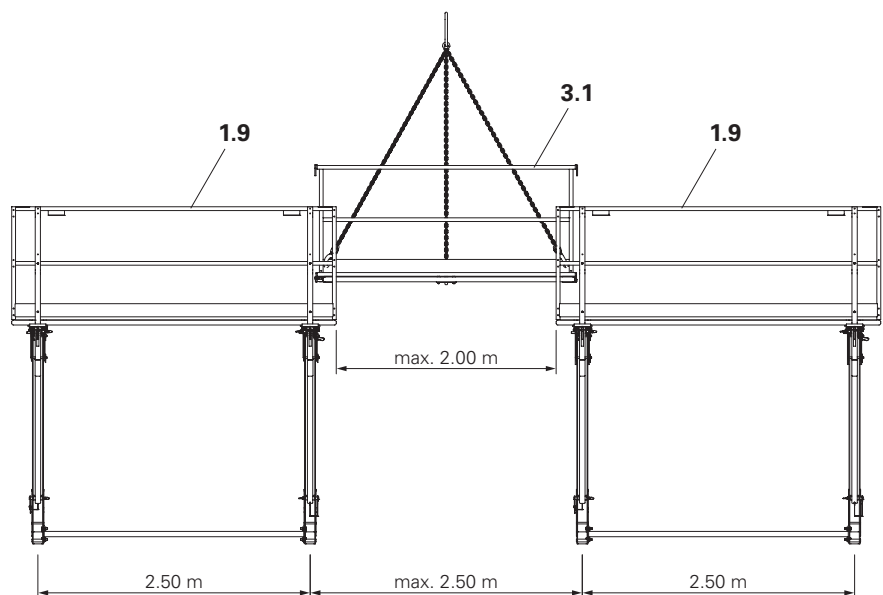

Fig. A3.02
1. Set down intermediate platform centred on 2 main platforms while also attaching the intermediate platform handrail frame (3.1) to the main platform handrail frame (1.9). (Fig. A3.02)